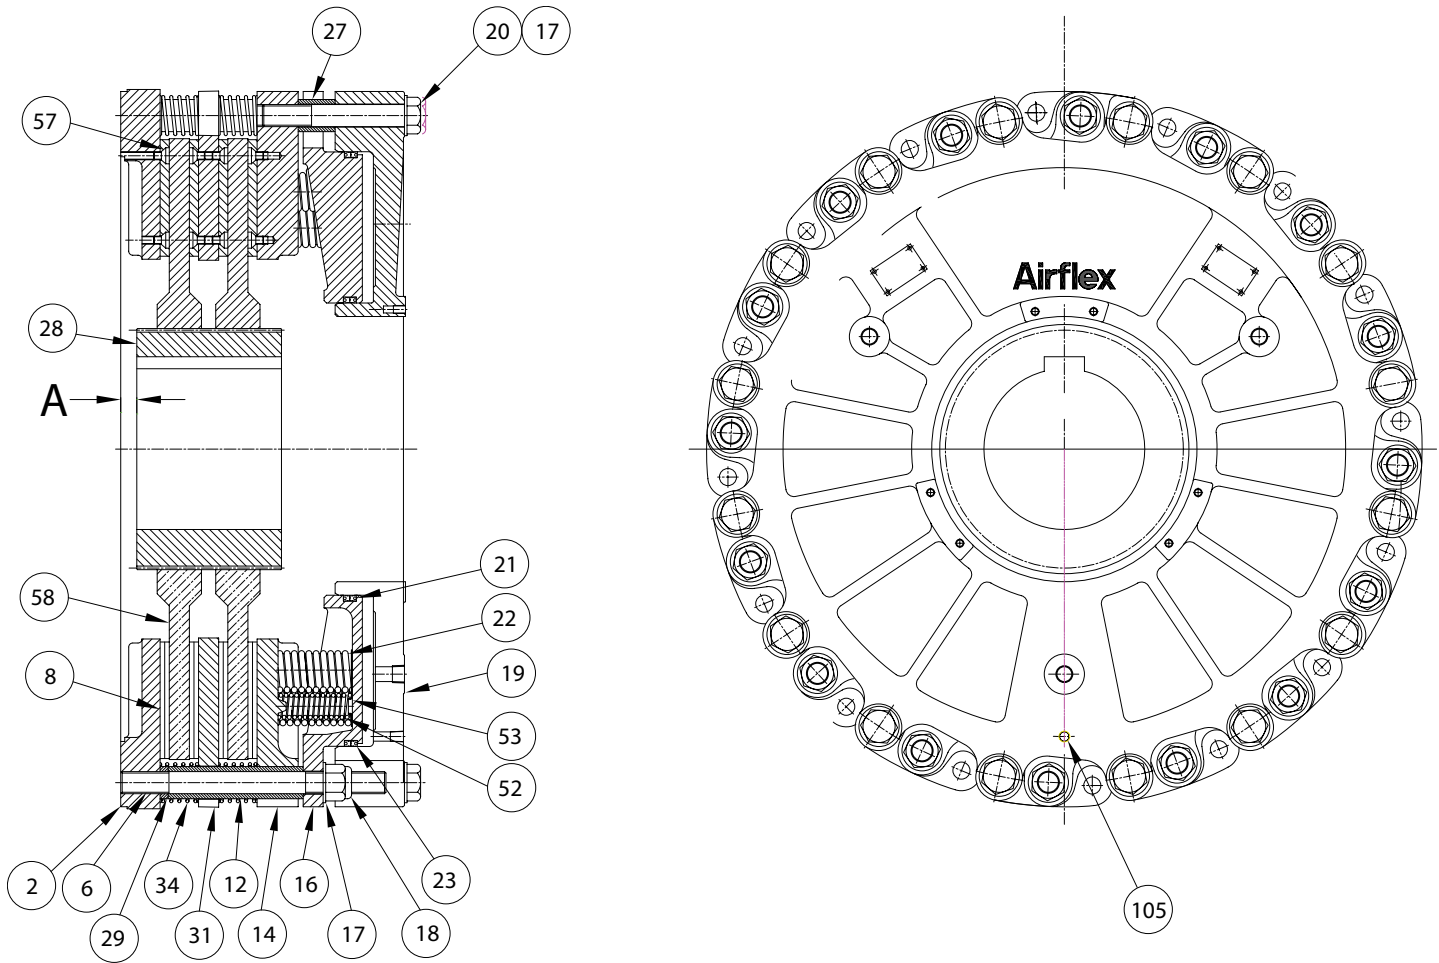

Figure 1 (2 Disc DBBS)
1.2.1 Referring to Figure 1 and Table 1, the gear (28) is mounted on the shaft which is to be stopped. The brake assembly is attached to the machine frame or reaction bracket. As air pressure is applied through the ports in the cylinder (19), the cylinder and pressure plate (14), which are attached to each other with screws (20), flat washers (17) and spacer tubes (27), move away from the mounting flange (2), which is connected to the machine frame or reaction bracket. The pressure plate compresses the springs (22) (52) against the stationary spring housing (16) and the clamp force is removed from the discs (58) which ride on the gear. The shaft is then free to rotate.
2.2.4 To install the gear, heat uniformly to approximately 250°F (121°C), prior to pressing the gear onto the shaft. Making sure the dimension between the gear and brake mounting surface ("A") is held at 1.00" (25.4) for sizes 20DBBS, 25DBBS and 38DBBS and 2.00" for size 50DBBS. See Figure 1.